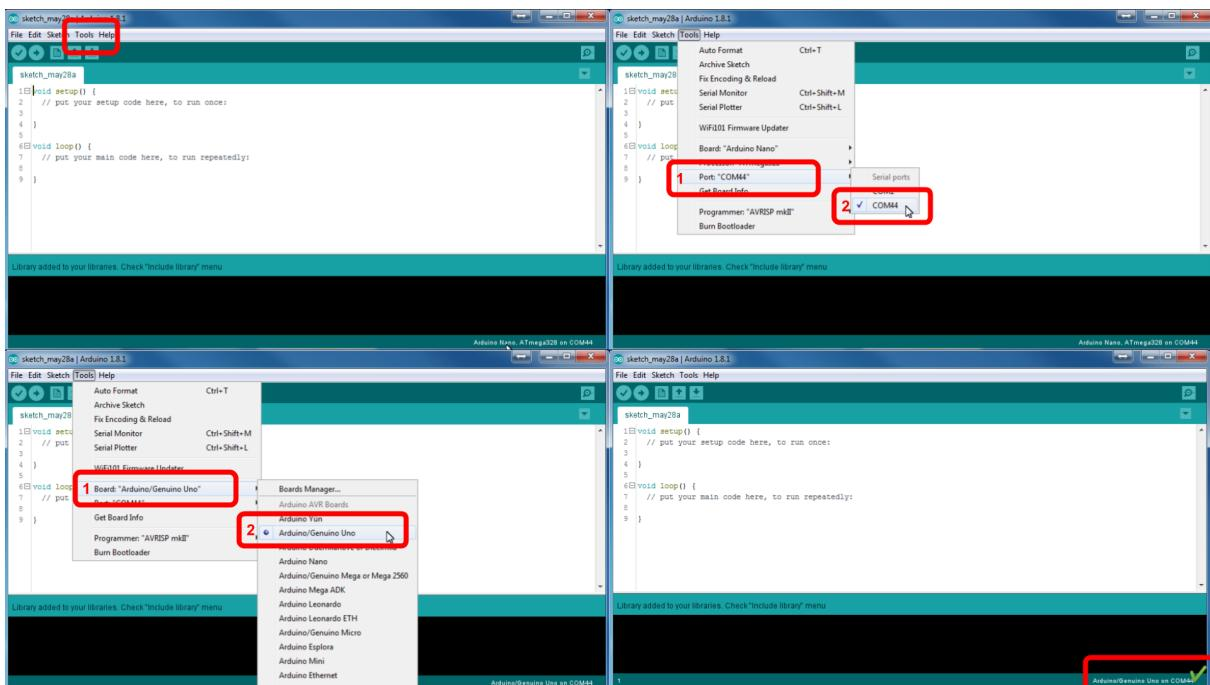

Figure 5.1: Arduino basic setup.
3. Make shure that you will set the proper settings (see fig. 5.1). From the menu choose: